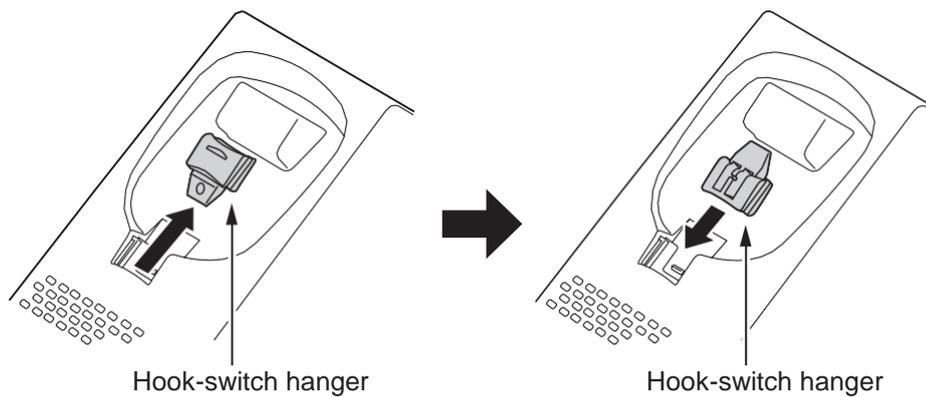

Figure 2-88 Hook-Switch Hanger
- Remove the switch-hook from the unit. Turn the tab toward the top. Then slide the hook-switch into position. Refer to Figure 2-88 Hook-Switch Hanger.